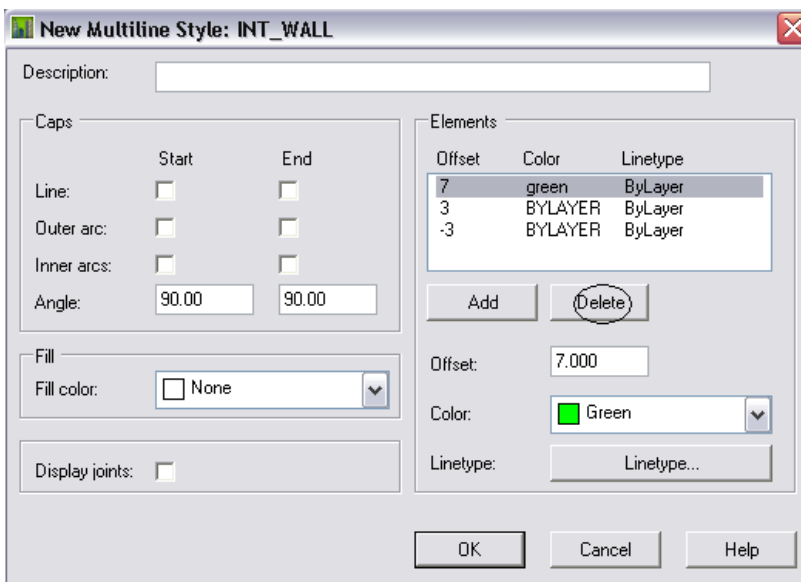

Figure 7
6. Create a new multi line style called INT_Wall. (Fig. 6) For this style, delete the third line (green). Fig 7.